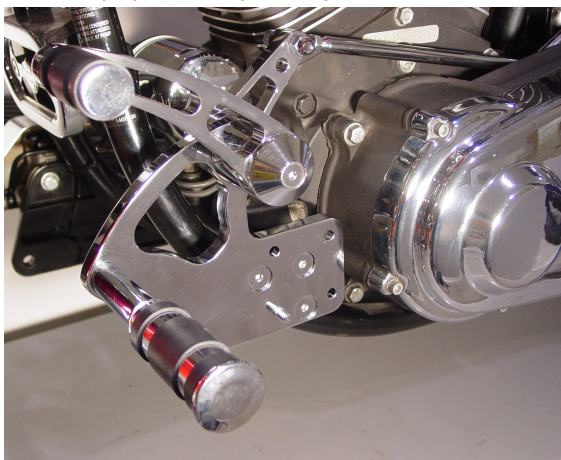

Figure 1
5. Using three 3/8-16X3/4 bolts, provided with the kit install the left bracket as shown. Torque hardware to OEM specification. See figure 1.